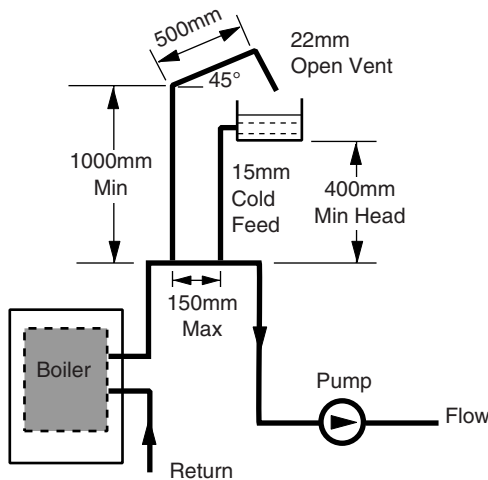

Fig. 6
1. Using a close coupled arrangement the minimum head is as shown in the diagrams (Figs. 6 & 7) subject to the following conditions: